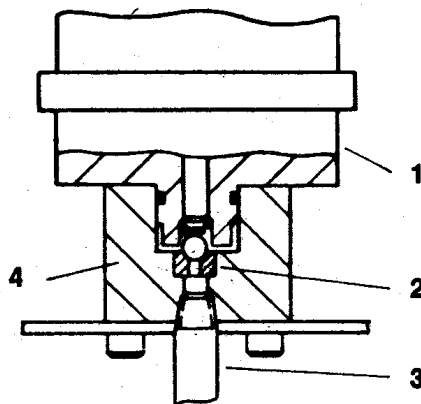
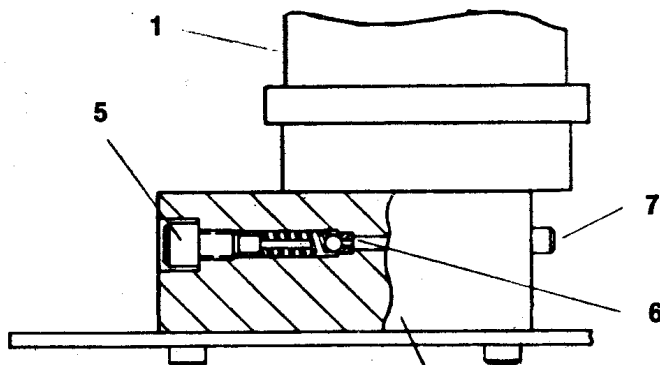

Figure 1
Figure 2
Leakage at Inlet Valve Seat (2), Figure 1., or leakage at Outlet Valve Seat (6), Figure 2.